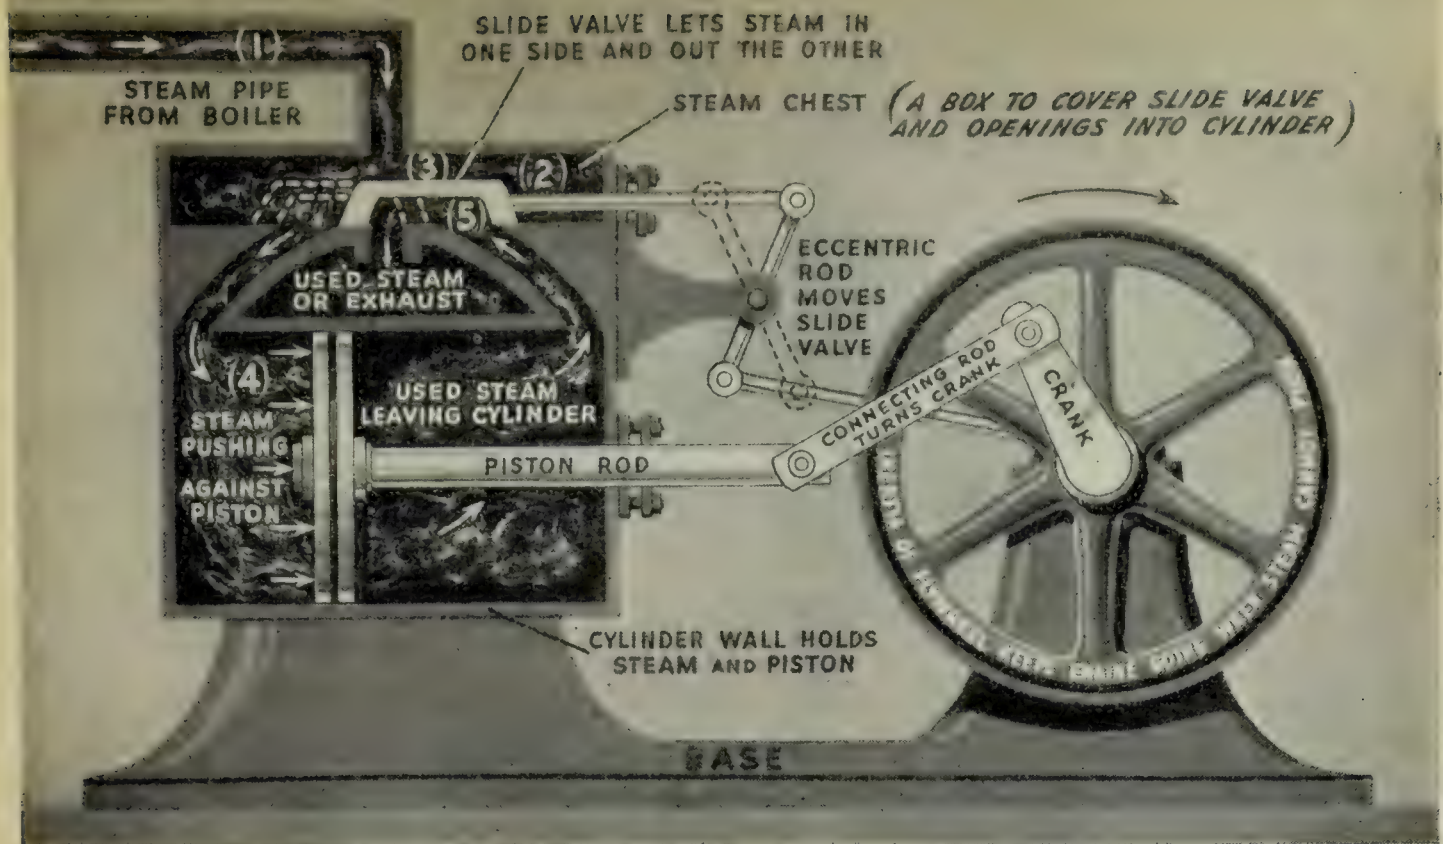

FIG. 352. How a steam engine harnesses energy
Figure 352 shows a common type of engine cut open so that you can see how it works. The steam comes from the boiler through a pipe (1). It enters the *steam chest* (2) and goes past the *slide valve* (3). Then it passes through an opening into the cylinder. There the steam presses against all sides of the cylinder and against the piston (4). The piston is the only part that can move. Thus the steam pushes the piston to the right and turns the flywheel. Soon the piston stops because the crank will not let it go any farther.
*Problems to Solve.* 1. If the slide valve shown in Figure 352 were in the position shown by the dotted lines, how would the
4. Make a cardboard or wooden model like Figure 352. Make the slide valve and piston with their rods of separate pieces of material so that you can move them back and forth to help your classmates understand how a steam engine operates. Perhaps you can arrange a crank and crank shaft that will turn and move the slide valve at the proper time.